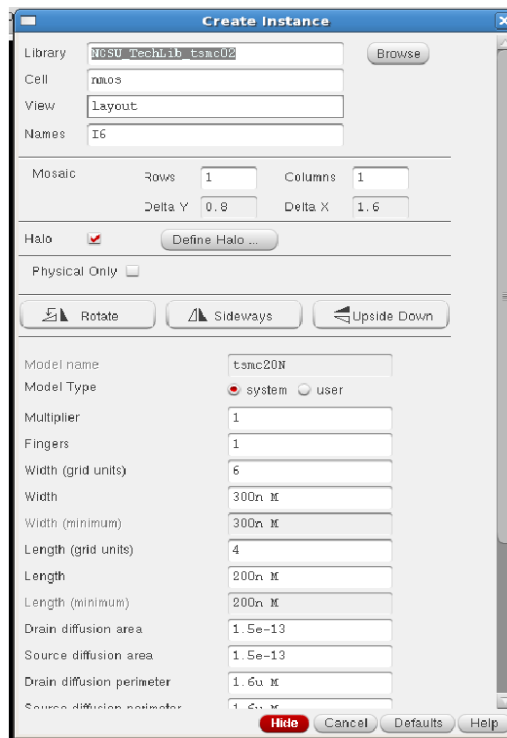

Figure 9. Adding a pre-drawn NMOS transistor layout into
- Select Create > Instance or use the “i” shortcut. Then, please look for “NMOS” or “PMOS” cell in the NCSU_TechLib_tsmc02 library. The “create instance” window looks as Figure 9. One important parameter in the window which you need to update is “Width”. Please fill in the actual width of the transistor used in the schematic view. Go back to layout editor window and click any point where you would like to put the transistor on.
- Another useful parameter in the “create instance” window (Figure 9) that you can apply in a larger design with many transistors is “Multiplier”. Please try using this parameter later for the **NAND gate**.